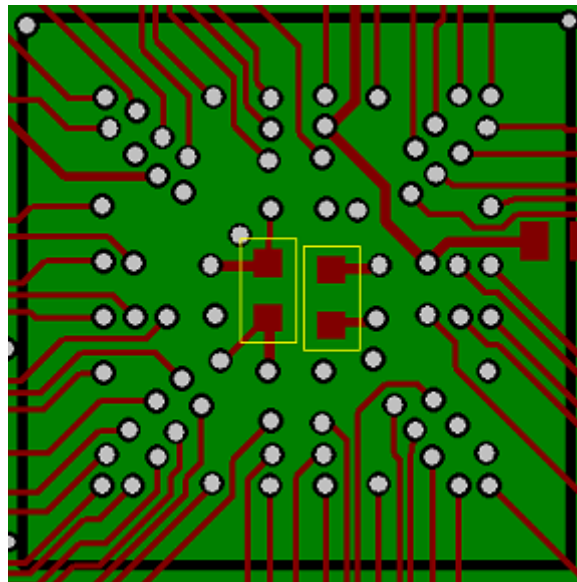

Figure 11. Bottom Layer 212-Ball BGA Escape Routing
- All other balls require vias to the backside or power planes. The placement of the vias is important to enable all traces on the back side to escape. See Figure 11. It may be necessary to use a very small grid spacing to align the vias with 4 mil spacing.
- The location of the vias in the center of the BGA allow for placement of two 0402 decoupling capacitors on the back side of the board directly under the BGA, as shown in Figure 11.
Figure 11 shows the bottom layer escape routing under the BGA from the vias. In the center of the bottom layer are two 0402 sized 0.1 μ F decoupling capacitors connected between VDD and GND.